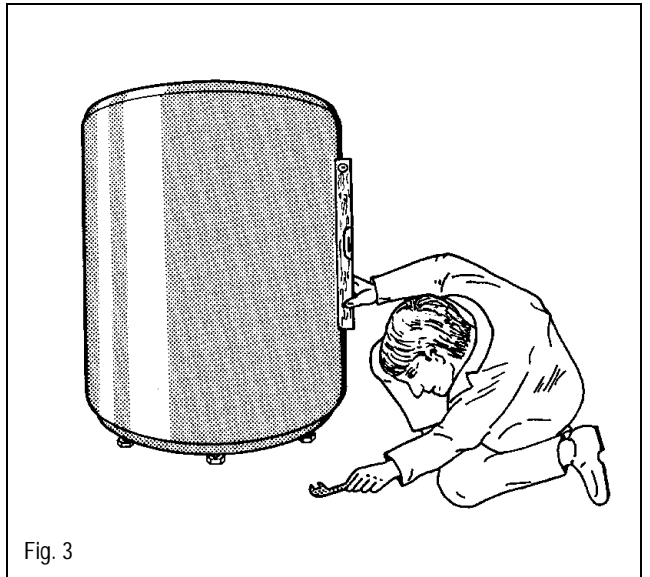

Fig. 3
- Adjust the screw-in feet to level the tank (Fig. 3).